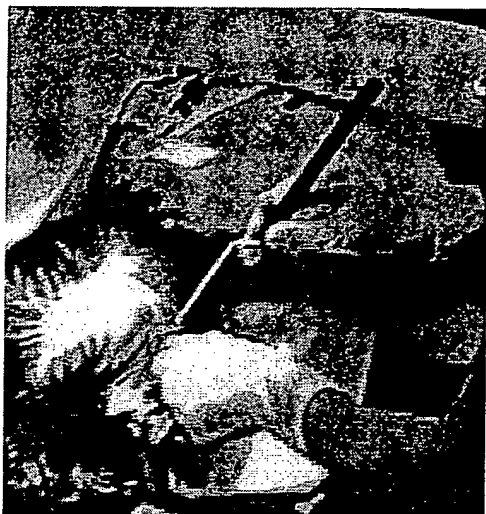

Figure 6: Referencing the patient
5. Reference the patient as displayed in Figure 6) with a sterile pointer (at least three CT markers are necessary, we recommend five CT markers); if you have only one pointer, it would be advisable to purchase a second pointer for this procedure